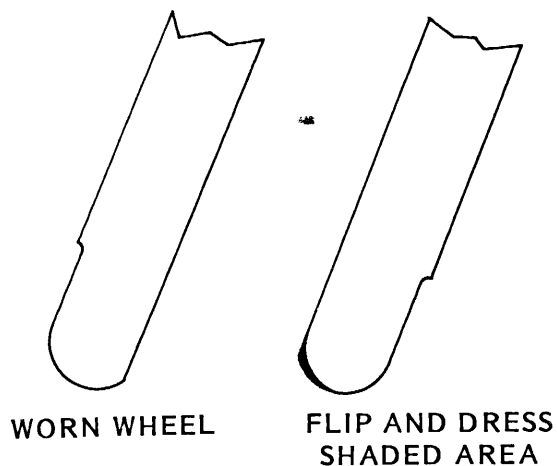

FIGURE 7
10. After a few blades have been ground, depending on how dull the blade is, the grinding face of the wheel may be worn away. (See Figure 7.) Rather than dress off large quantities of the wheel, the wheel may be reversed on the arbor and re-dressed, cutting away only a small amount of the wheel.